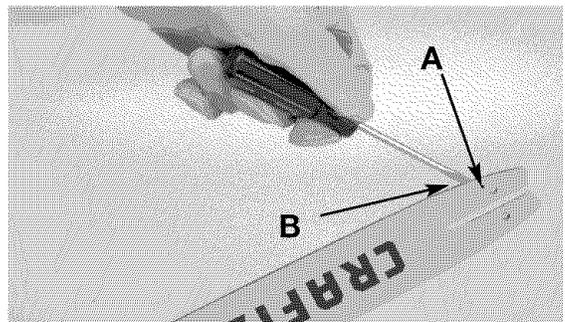

Fig. 29
BAR GROOVES (B) (Fig. 29)- Bar grooves (or rails which support and carry the chain) should be cleaned if saw has been used heavily or if saw chain appears dirty. Rails should always be cleaned every time saw chain is removed.
OIL PASSAGES (A) (Fig. 29)- Oil passages on the bar should be cleaned to ensure proper lubrication of the bar and chain during operation. This can be done using a soft wire small enough to insert into the oil discharge hole.
2. Using a screwdriver, putty knife, wire brush or other similar instrument, clear residue from the rails on the guide bar. This will keep the oil passages open to provide proper lubrication to the bar and chain (Fig. 29).